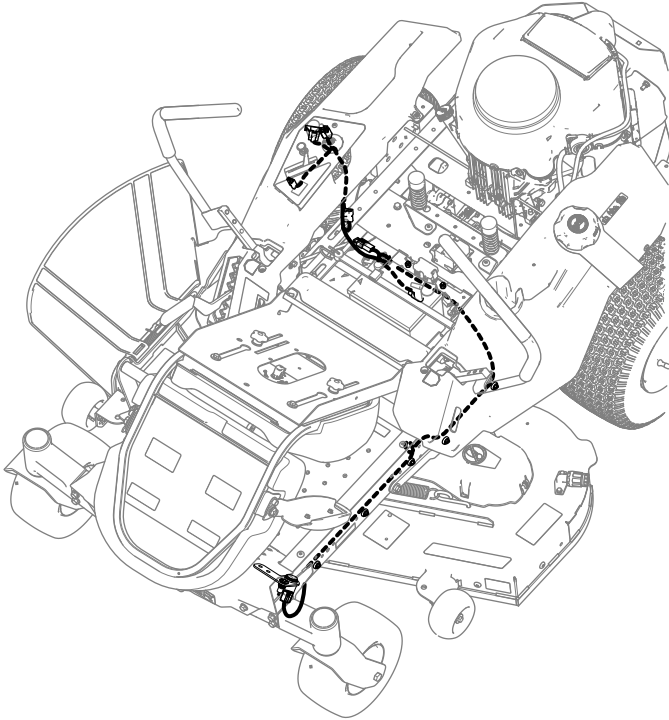

Figure 12
1. Route the wire harness under the crossmember, under the fuel tank, and along the left frame rail to the bracket (Figure 12). Use the magnets to secure the wire harness to the machine, away from moving parts.